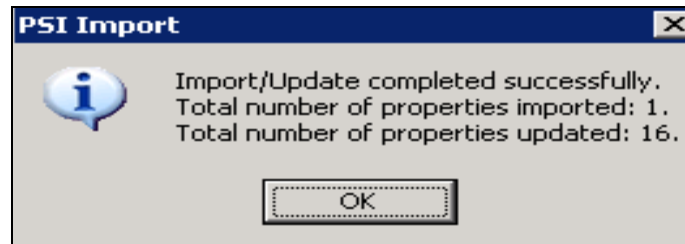

Figure 6-111: PSI Successful Import Message
9. If the import is successful, you will receive a PSI Import message indicating the Import/Update completed successfully (Figure 6-111). Select OK.